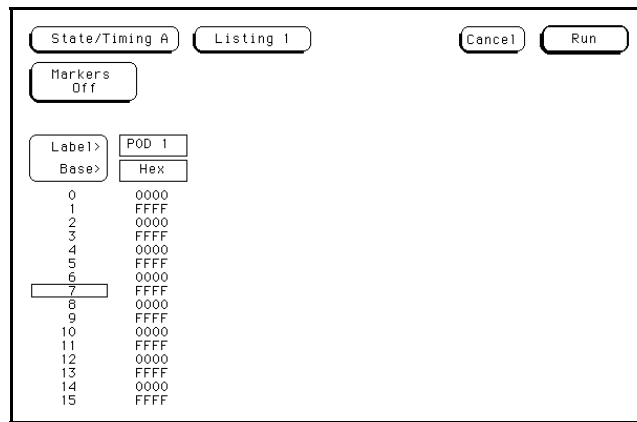

Figure 3-32. Listing Screen
- Touch **Run**. The State Listing screen will be displayed and should list alternating F's and 0's as shown in figure 3-32.